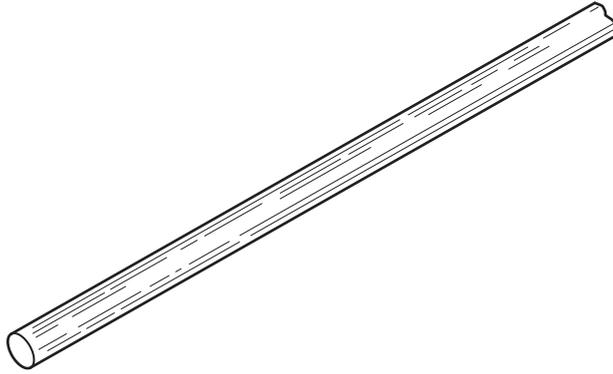

Fig. 13.5
- (ii) Fig. 13.5 shows part of a length of $\text{Ø}5$ dowel. The dowels used for the joints are 15 mm long.